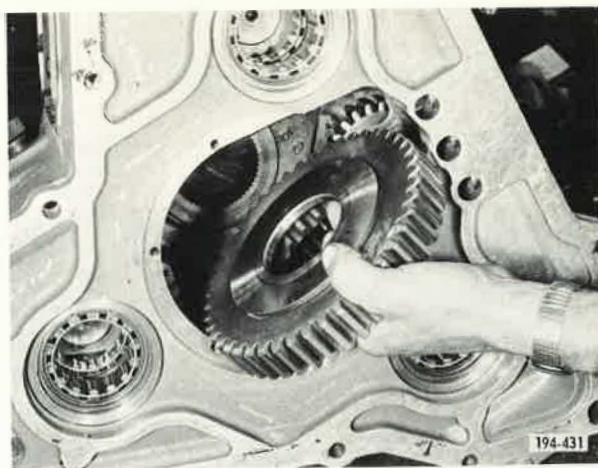

Figure 22. Removing Lo-Range Gear
5. Remove Lo-range gear (Lo-Lo range for TRXL1071) from rear case. See Figure 22.